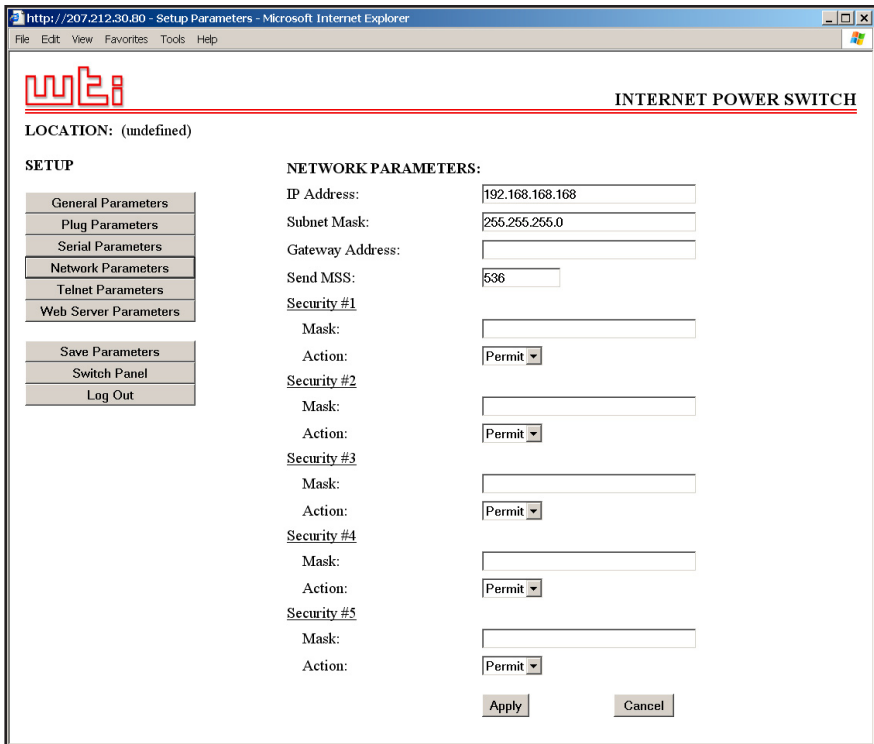

Figure 5.9: Network Parameters Menu - Web Browser Interface
- **Web Browser Interface:** Click the "Setup" button to access the Setup Menus, and then click the "Network Parameters" button. The Network Parameters Menu will be displayed as shown in Figure 5.9.
- a) **Web Browser Interface:** The IP Security feature is configured using the fields at the bottom of the Network Parameters Menu as shown in Figure 5.9.